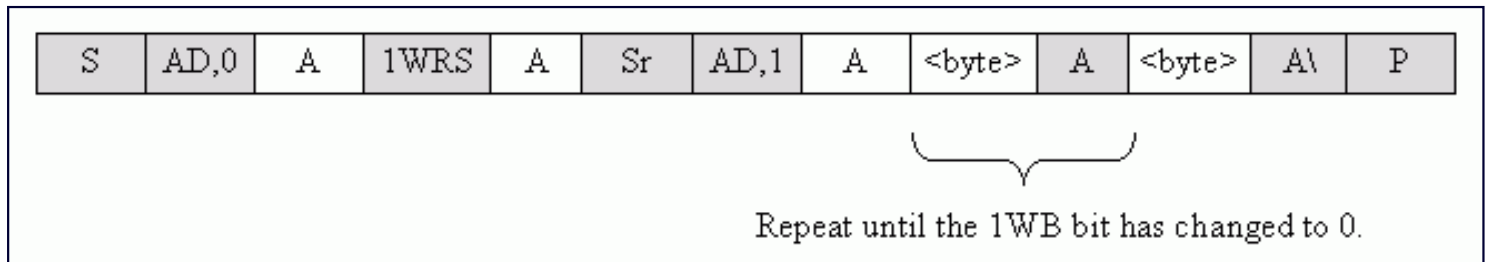

Figure 4. 1-Wire reset. Begins or ends 1-Wire communication. 1-Wire Idle (1WB = 0), Busy polling until the 1-Wire command is completed, then read the result.
The Reset command (0xB4) generates a 1-Wire Reset/Presence Detect at the 1-Wire line. The state of the 1-Wire line is sampled and reported through the Presence-Pulse Detect (PPD) and the Short Detected (SD) fields in the status register. **Figure 4** shows I2C communication for the 1-Wire Reset command. **Example 2** shows the command sent and status register checked for a presence pulse.